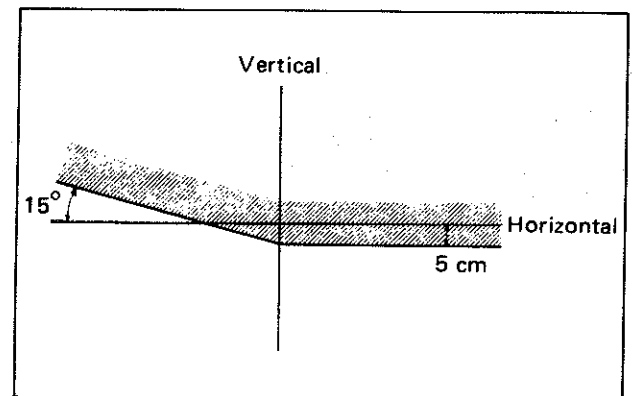

Fig. 4—Aiming pattern outer lamps low beam
(6) Unmask the outer lamps, select low beam and adjust the outer lamps to achieve the pattern shown in Fig. 4.